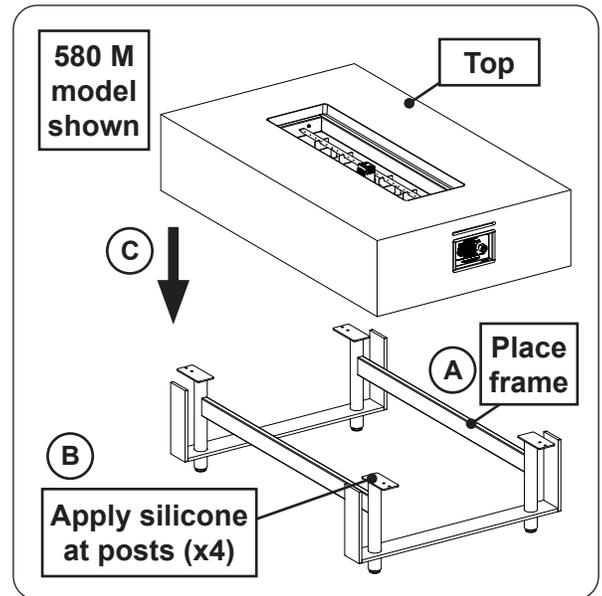

Fig. 31-1 Place unit
1. **CAREFULLY** set the top/main unit aside and locate the metal frame where desired (see Fig. 31-1, A, and refer back to the LOCATION section if needed).